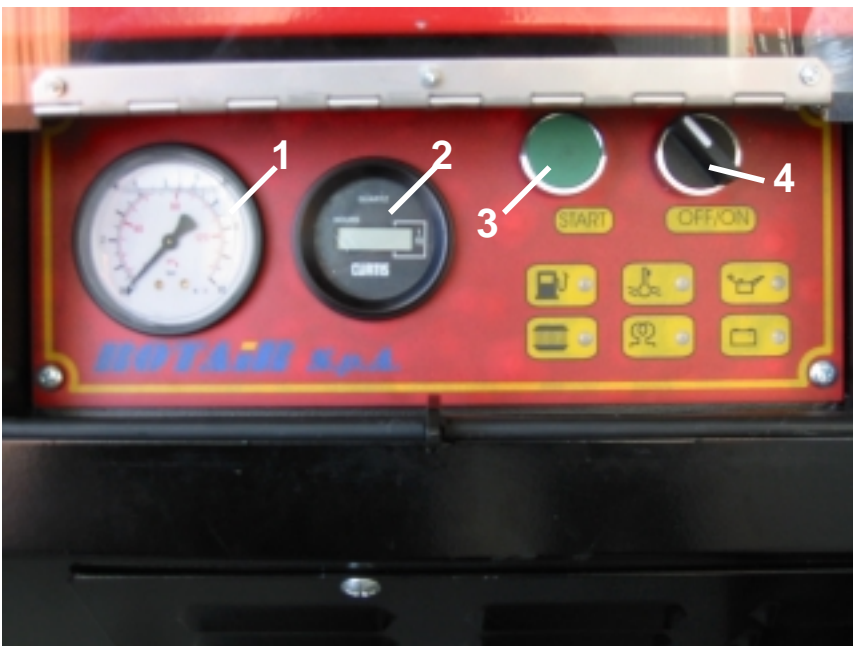

Fig. 1
-- 5.7) CONTROL INSTRUMENTATION AND DEVICES (FIG.1 --
Figure 1 shows and identifies the various control and command devices.
1.1) By turning the starting block key (part. 4 fig. 1) to the right in the position "ON", the panel is powered and the following warning lights come on:
The glow plug warning light stays on for as long as it takes to heat the glow plugs after which it switches itself off automatically. At this point it is possible to start the engine-compressor by the push button (part 3 fig 1).